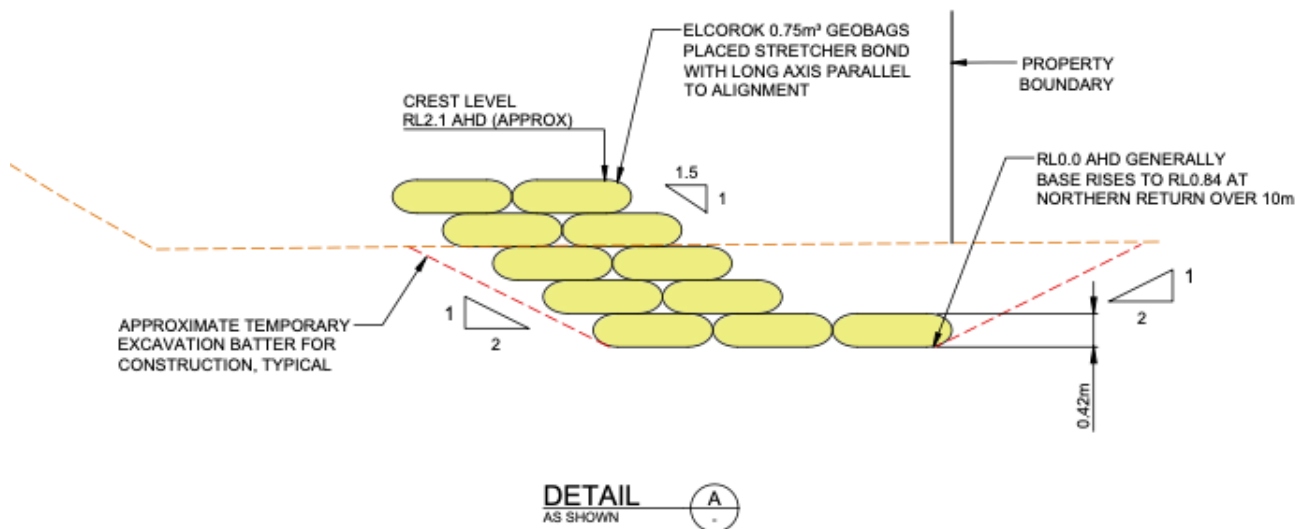

Figure 2. Typical section showing proposed seawall extension and temporary excavation batter / benching area.
- A construction batter area of 1v:2h, or suitable equivalent benching area, is to be prepared for safe work access from behind the seawall. See Figure 1 & Figure 2.